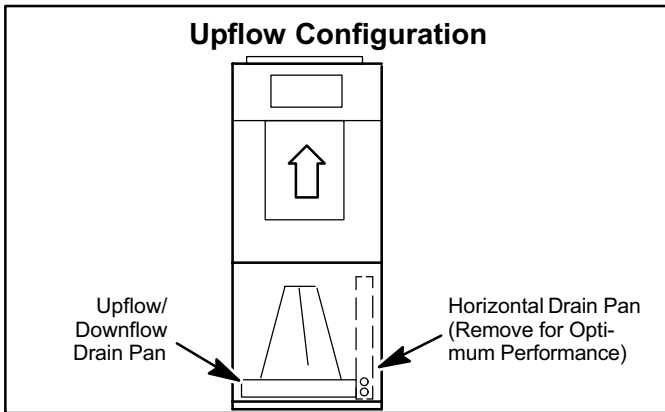

Figure 1
2. To ensure proper operation, remove the horizontal drain pan from units in upflow configurations (see figure 1).